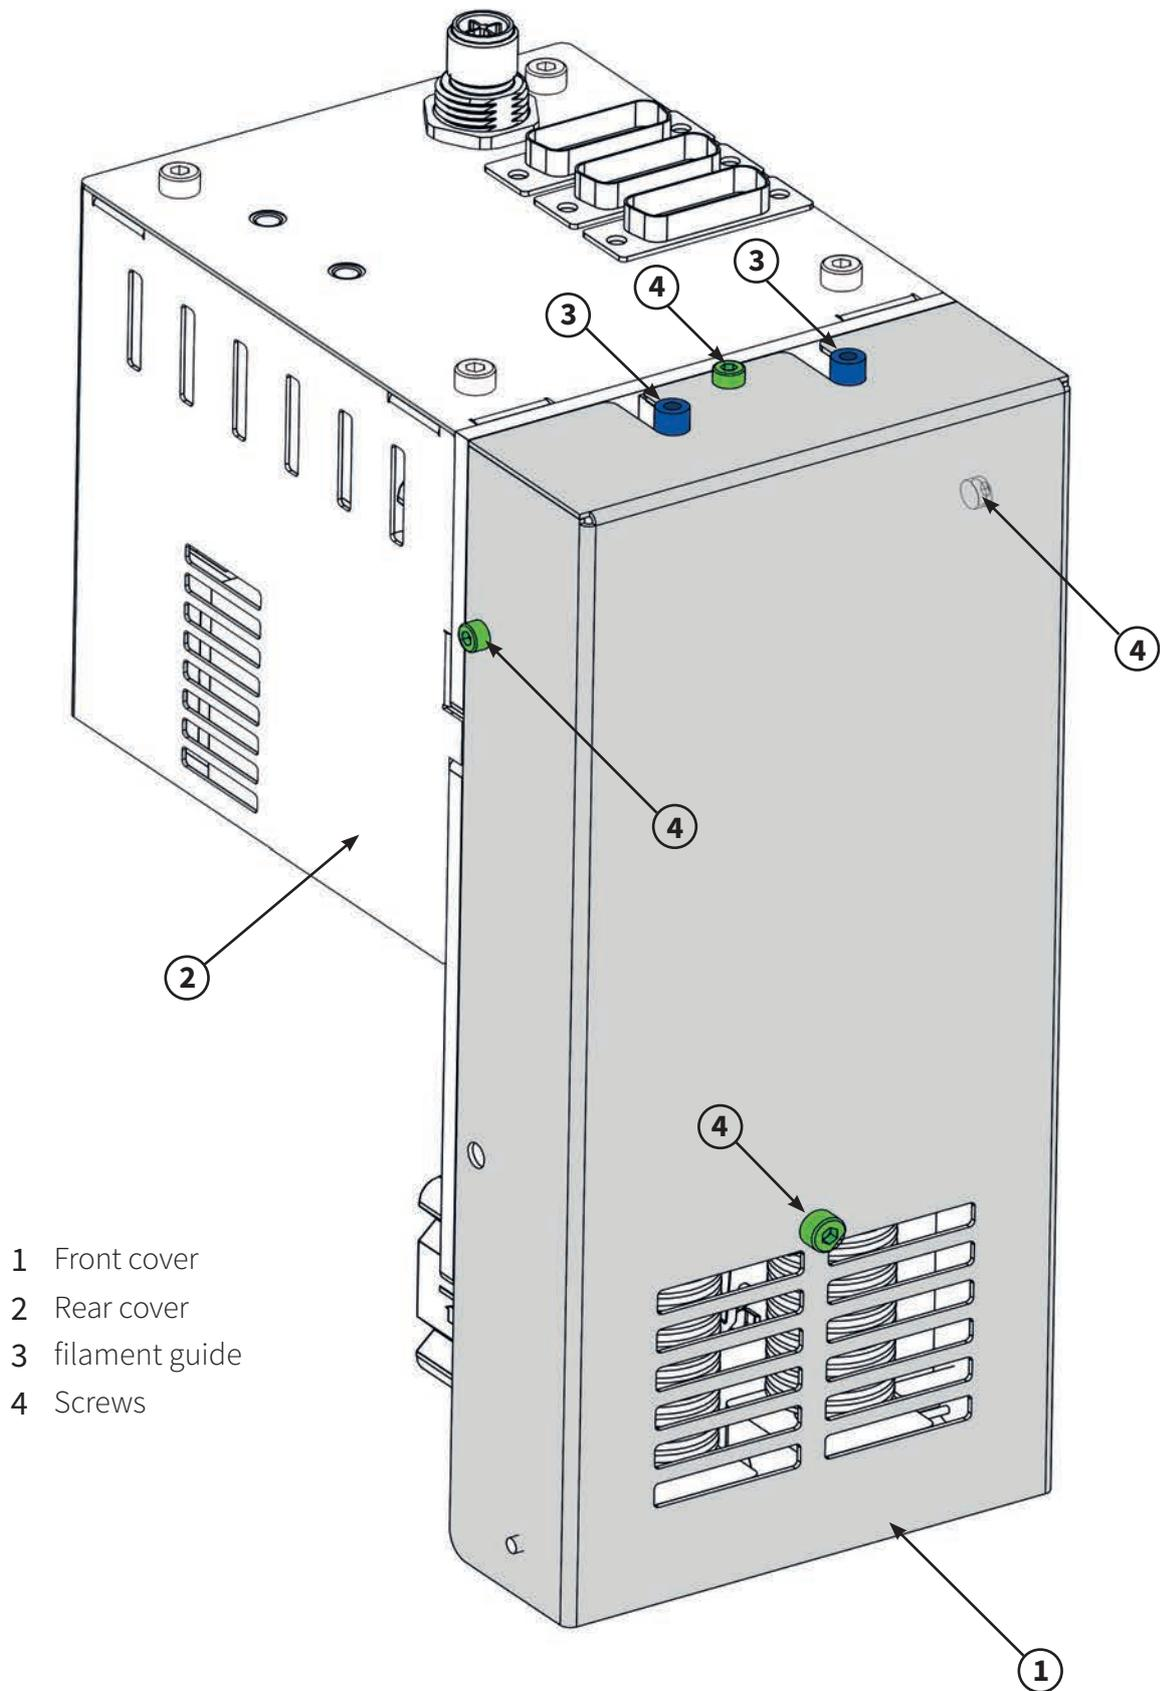

Fig. A-1: Extruder head with front cover
2. Remove the filament strand out of the filament guide while the nozzle is hot (Fig A-1 (3)) (↗ Interface Manual | Manual Extrusion) Pull out the loose filament end when the motor no longer advances the filament.